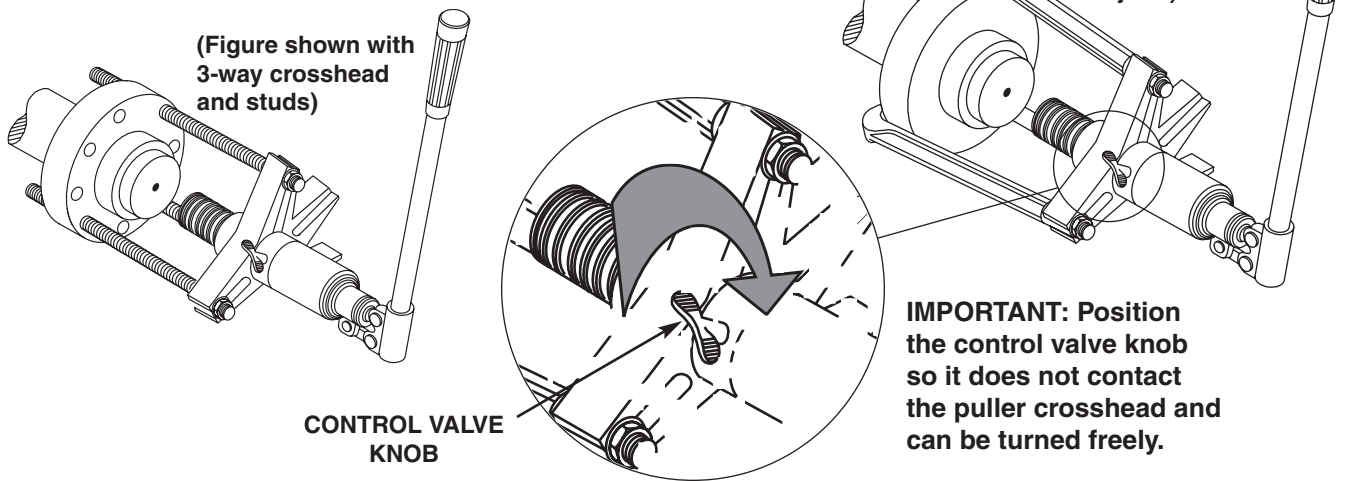

Figure 2
- Turn the control valve knob completely in a clockwise direction to advance the piston. See Figure 2.